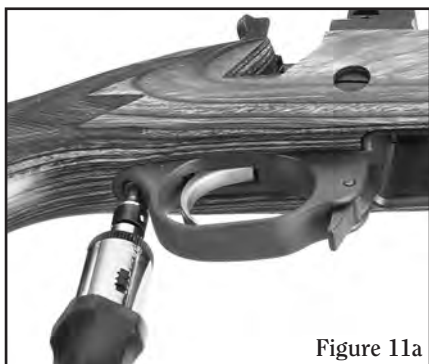

Figure 11a
b. Loosen and remove the screw that holds the trigger guard/magazine well. See Figures 11a & 11b.